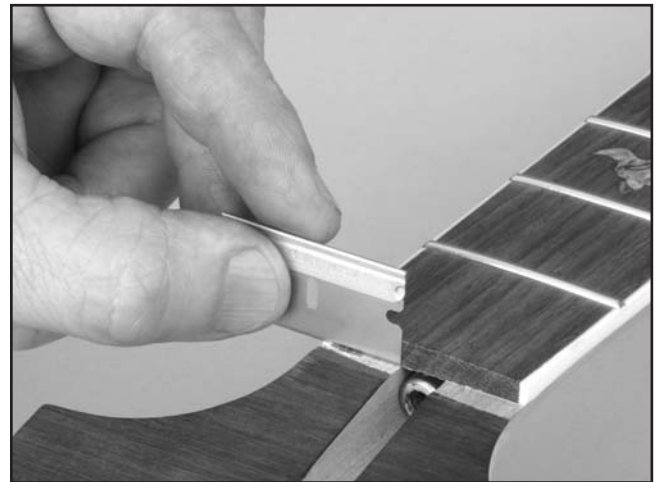

Figure 20. Cleaning out the nut slot.
1. Use a chisel or razor blade to carefully scrape any finish overspray out of the nut slot (**Figure 20**). DO NOT remove any wood from the nut slot.